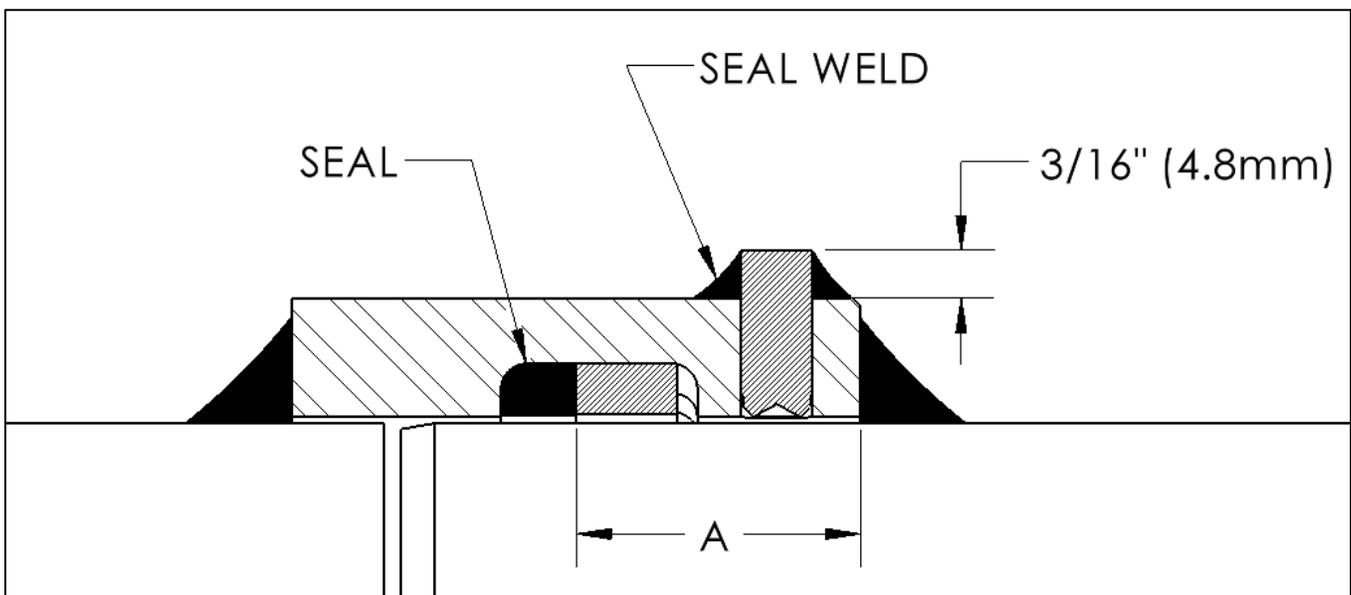

Figure 10
3. After the circumferential fillet welds are finished, one clamp screw per end may be removed to serve as a vent while welding the remaining clamp screws and also as a final test point for leakage if so required. Cut or burn off the clamp screws approximately 3/16" (4.8 mm) above the outside surface of the fitting and seal weld. (See Figure 10)